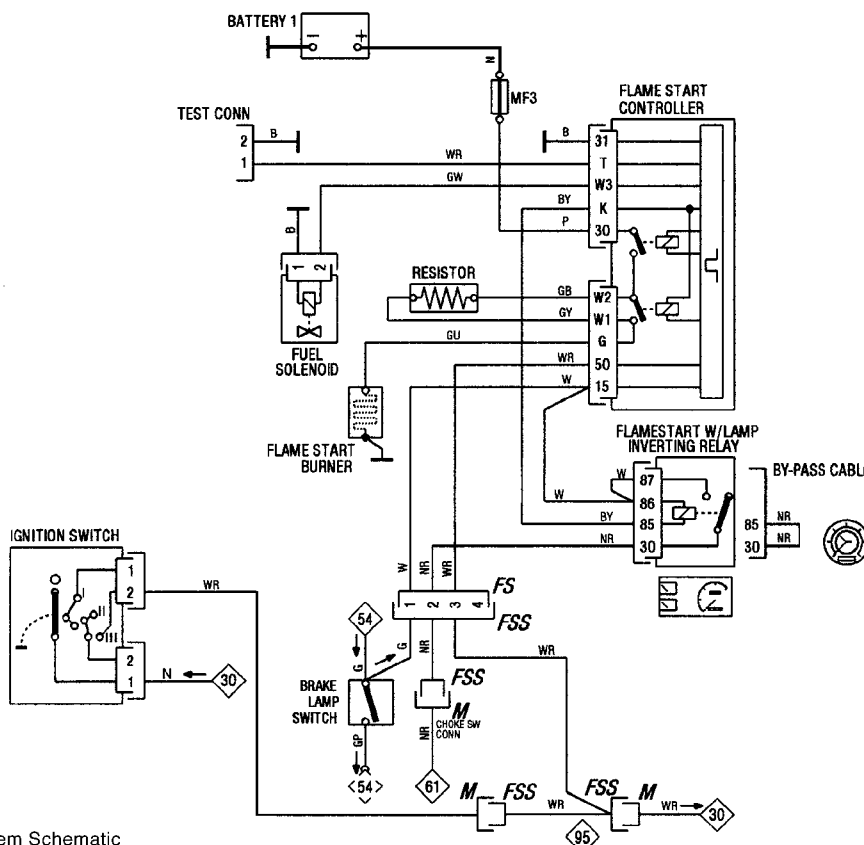

Fig. 5 Flamestart System Schematic
- If fitted, check the 'Flamestart' system (see fig. 5).